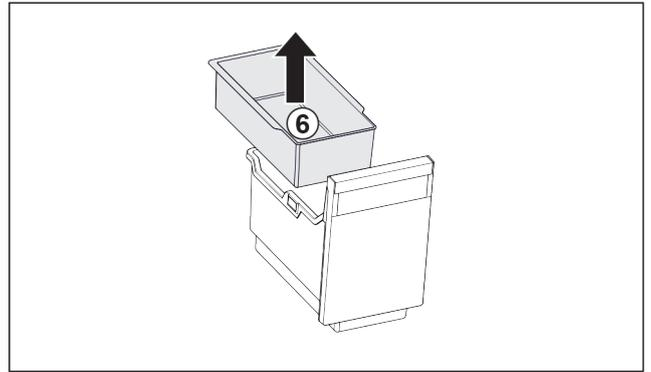

Fig. 26
- ▶ Remove the hang-on tray Fig. 26 (6).